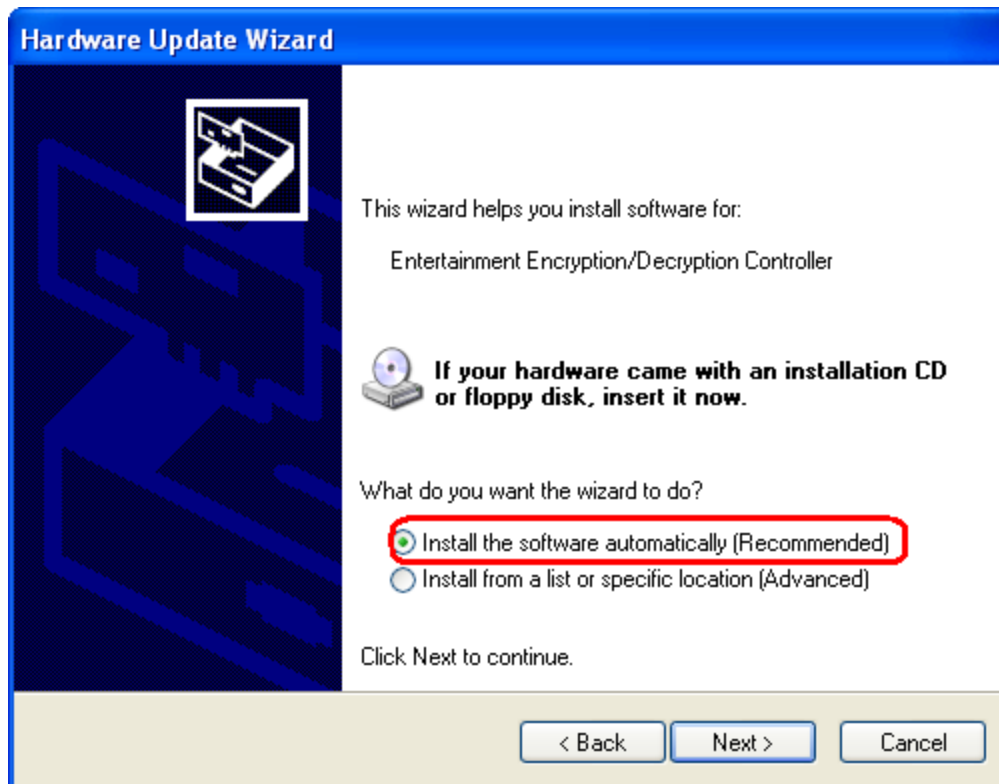

Figure 7-37: Entertainment Encryption/Decryption Controller Driver Installation Start
Step 8: The screen in **Figure 7-37** appears.
Step 9: Select the recommended option in **Figure 7-37**.